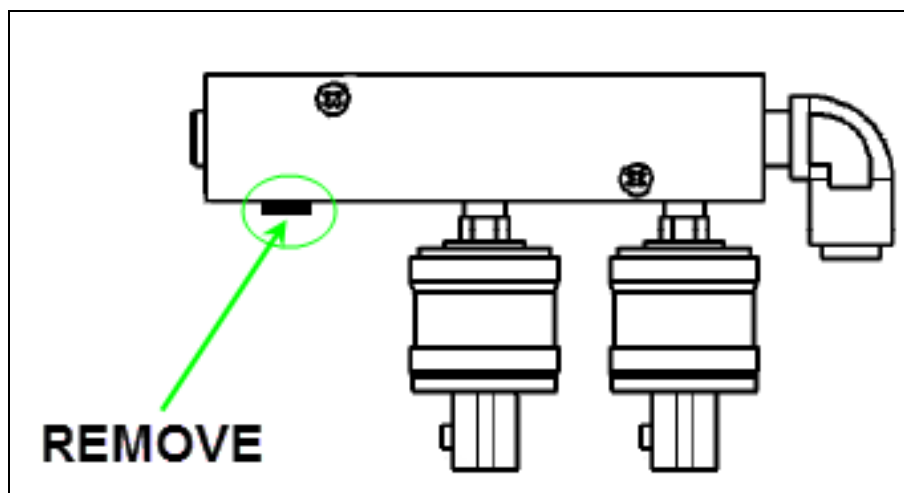

Fig.4 Third port on the junction block
4. Using a 3/16" Allen hex key, Remove the plug that caps the third port of the pressure switches junction block (Fig.4).